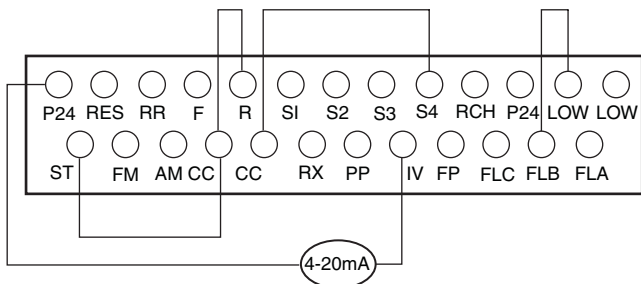

Fig. 54 — Supply Fan Variable Frequency Drive Terminal Block (Size 030-050 Units)
2. Proper rotation jumper is installed at terminals R-CC (reverse rotation, factory supplied) or terminals F-CC (forward rotation, factory supplied). See Fig. 54 and 55.